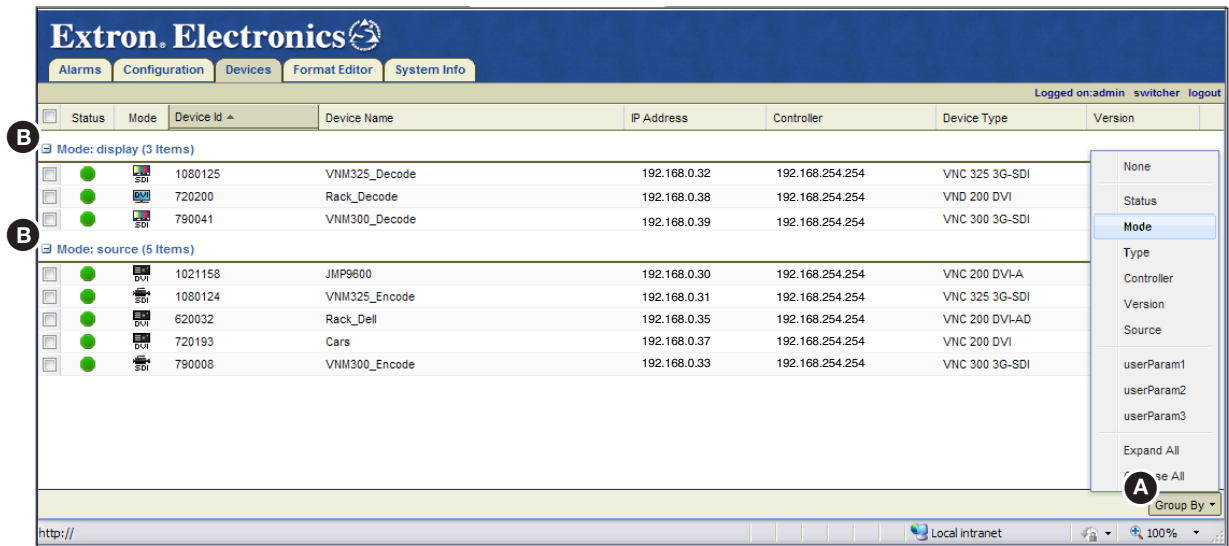

Figure 25. Grouping Devices
Devices can be sorted in groups using the **Group By** menu (see figure 25, **A**).
- After selecting a grouping option, groups can be further sorted using column sorting. Figure 25 shows the devices grouped by mode and sorted by device ID in ascending order.
- Grouped devices can be expanded and collapsed by clicking on the square icon located next to the group name (see figure 25, **B**).